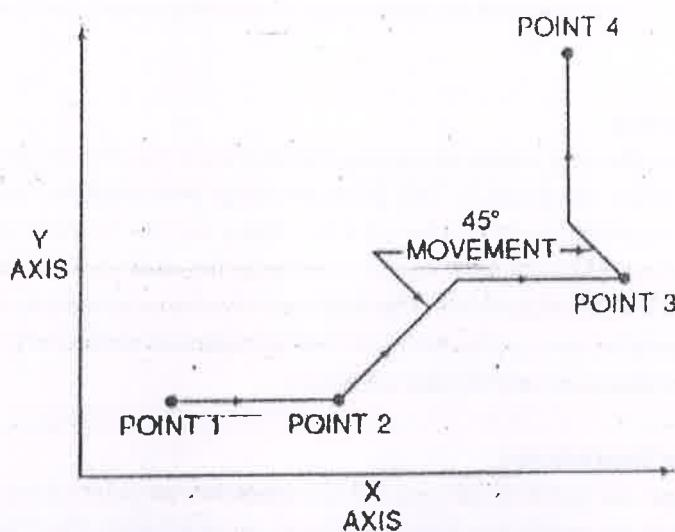

Fig. 9 The path followed by point-to-point positioning to reach various programmed points (machining locations) on the XY axis.
Point-to-point positioning is used when it is necessary to accurately locate the spindle, or the workpiece mounted on the machine table, at one or more specific locations to perform such operations as drilling, reaming, boring, tapping, and punching (Fig. 9). Point-to-point positioning is the process of positioning from one coordinate (XY) position or location to another, performing the machining operation, and continuing this pattern until all the operations have been completed at all programmed locations.
In Fig. 9 point 1 to point 2 is a straight line, and the machine moves only along the X axis; but points 2 and 3 require that motion along both the X and Y axes takes place. As the distance in the X direction is greater than in the Y direction, Y will reach its position first, leaving X to travel in a straight line for the remaining distance. A similar motion takes place between points 3 and 4.